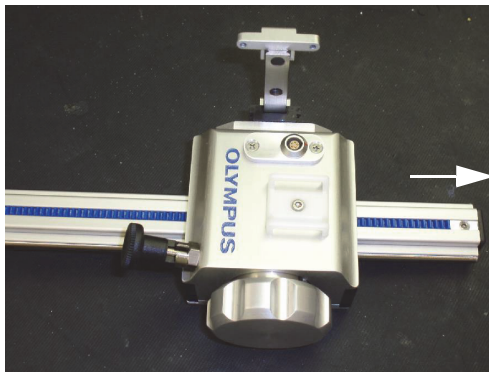

Figure 2-36 The axis passed completely through the encoder module
4. Turn the increment knob to completely pass the axis through the encoder module (see Figure 2-36 on page 50).